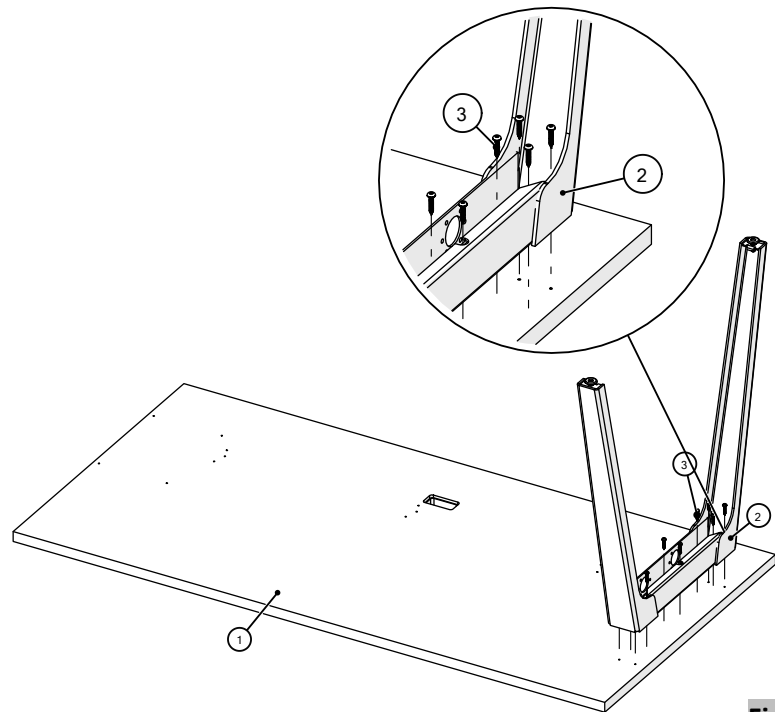

Figure 1
2. Position the A-leg over pilot holes in underside of worksurface; attach the A-Leg to worksurface using the (10) #10 x 1" Pan Head Screws, (Figure 1).